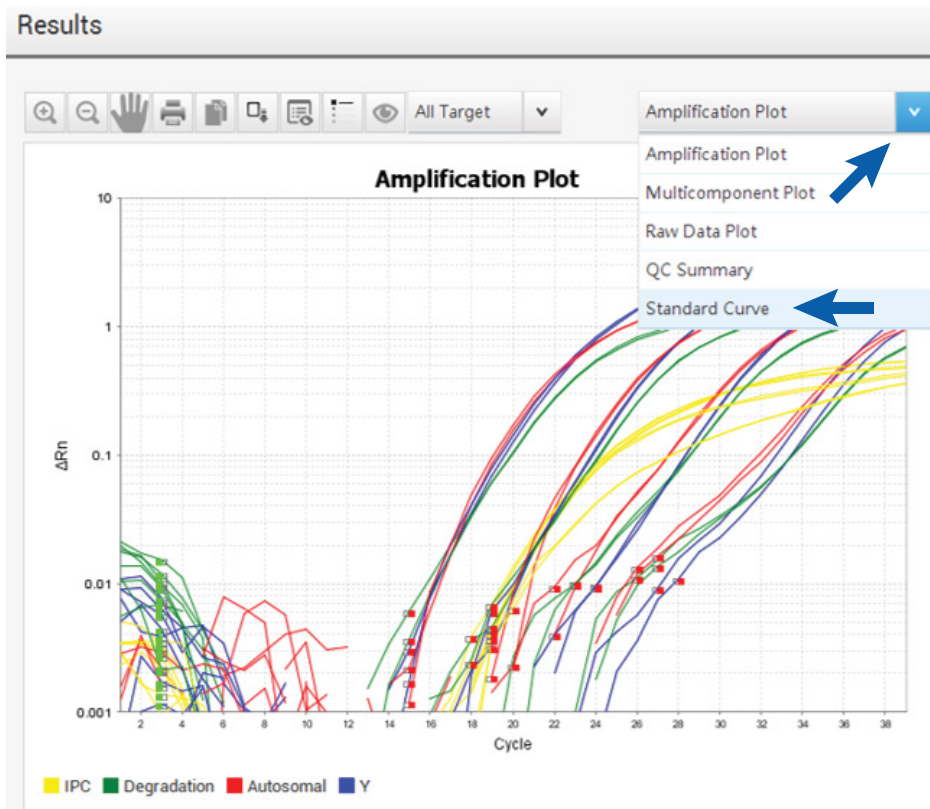

Figure 53. Displaying the standard curves for all targets.
- To display all standard curves, select **Standard Curve** from the drop-down menu located above the Amplification Plot section (Figure 53).